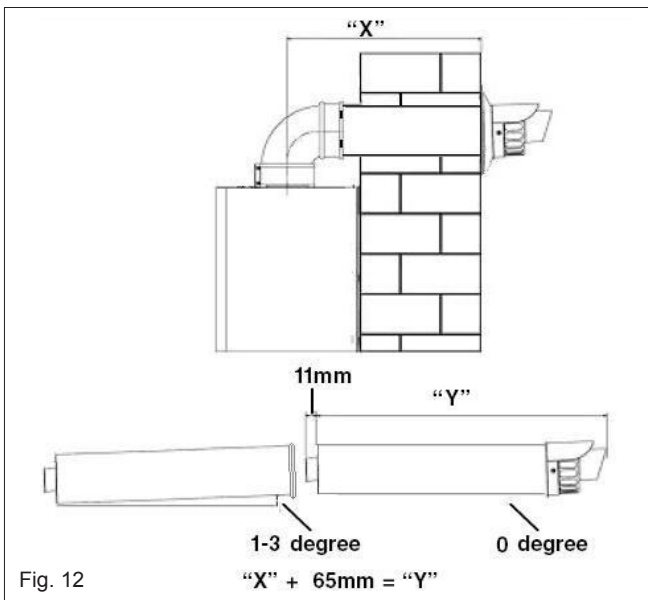

Fig. 12
Using the template provided (A), mark and drill a 125mm hole for the passage of the flue pipe. The hole should be drilled to ensure any condense fluid that forms, is allowed to drain back to the appliance (see fig. 12). The fixing holes for the wall-mounting bracket should now be drilled and plugged, an appropriate type and quantity of fixing should be used to ensure that the bracket is mounted securely. Once the bracket has been secured to the wall, mount the appliance onto the bracket.
Carefully measure the distance from the centre of the appliance flue outlet to the edge of the finished outside wall (dimension X). Add 65mm to dimension X to give you Dimension Y (see fig 12). Measure dimension Y from the terminal end of the concentric flue pipe and cut off the excess ensuring any burrs are removed. Pass the concentric flue pipe through the previously drilled hole. Fit the flue bend to the boiler flue outlet and insert the concentric flue pipe into the flue bend ensuring the correct seal is made. Using the clamp, gasket, and screws supplied, secure the flue bend to the appliance flue spigot.
Using the dimensions given in fig. 12 as a reference, mark and cut a 125mm hole in the ceiling and/or roof.